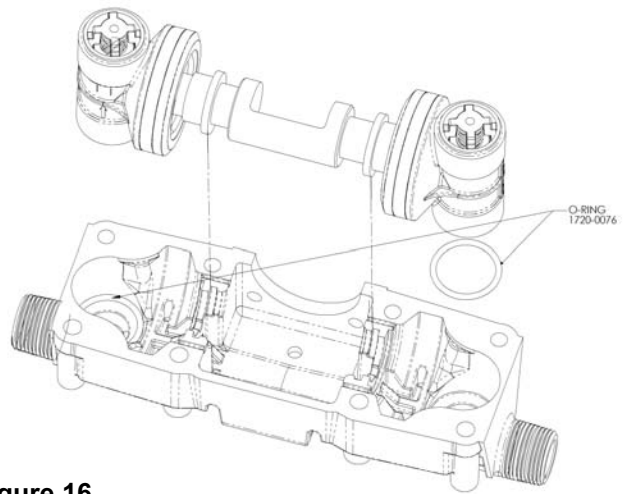

Figure 16
3. Assemble Sub-Assemblies: (Fig. 16)